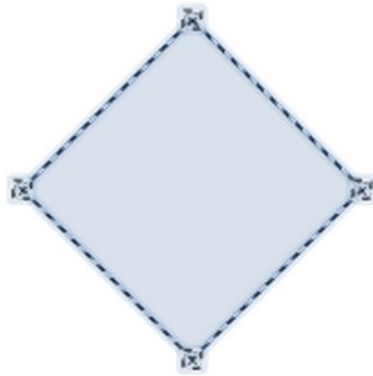

Figure 3: Example of object glue points
- 3) Move the cursor over one of the objects to be connected and small crosses appear around the object edges, normally in the same position as object selection handles. These crosses are the glue points to which a connector can be attached (Figure 3). See “Glue points” on page 7 for more information on glue points.
All objects have glue points and Figure 3 on page 6 shows an example of glue points visible on an object after a connector has been selected. Glue points are not normally displayed on an object and only become visible when one of the following methods is used.
By default, most objects normally have four glue points as shown in the example in Figure 3 on page 6. Add additional glue points to an object as follows: